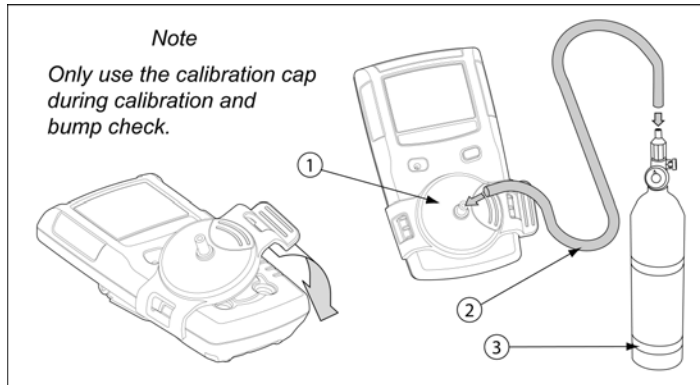

Figure 7. Connecting the Gas Cylinder to the Detector
Refer to the following Figure 7, Table 11, and procedures to connect the gas cylinder to the detector for calibration.
5. Attach the calibration cap to the detector. Refer to Figure 7. Open the valve on the regulator and apply gas at a flow rate of 250-500 ml/min.